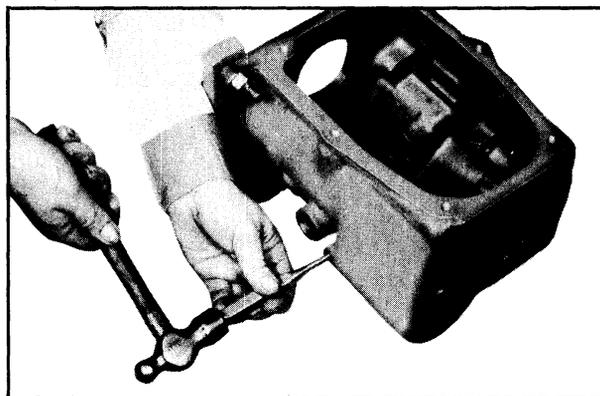

Fig. 11-20 Driving Lock Pin Into Idler Shaft
17. Drive reverse idler gear shaft lock pin into the shaft, then remove shaft, idler gear, and thrust washers. (See Figs. 11-20 and 11-21)